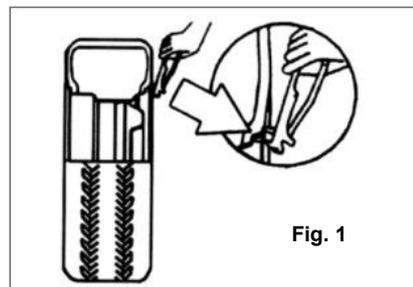

Fig. 1
- Remove old balance weights from the rim (Fig. 1)